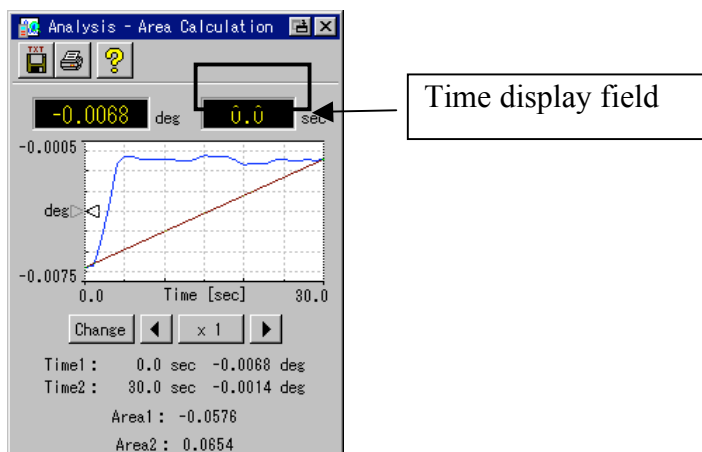

Figure 5.19 Area calculation window
- 1) Press the <Area Calc> button in the analysis window to display the window shown in Fig. 5.19.